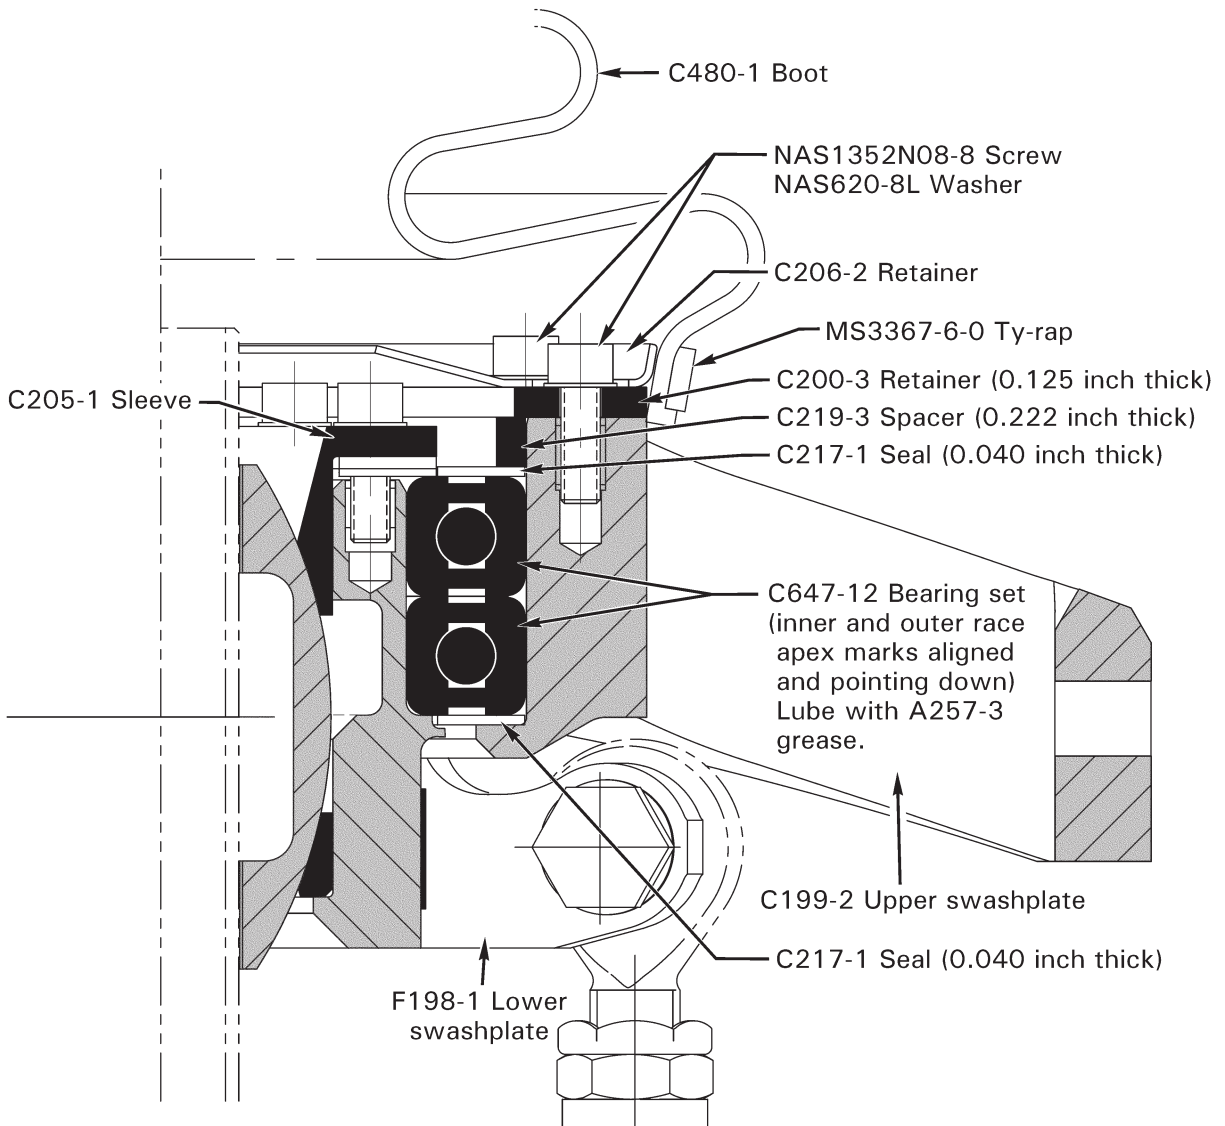

FIGURE 1 C017-6 REV AD OR LATER SWASHPLATE ASSEMBLY
- e. Refer to Figure 1. Perform steps 7 thru 11.
5. Refer to Figure 1. Remove (10) NAS1352 screws (with washers) securing C206-2 & C200-3 retainers to upper swashplate. Raise both retainers and C219-3 spacer and either temporarily secure to chord arm (if on helicopter) or set aside (if on workbench).
8. Position C217-1 seal atop grease followed by C219-3 spacer, C200-3 retainer, and NAS1352N08-8 screws with NAS620-8L washers. Finger-tighten all screws, then snug any (4) screws that are 90° apart, depressing seal and forcing grease into underlying bearing set. Rotate upper swashplate several revolutions. Wipe off excess grease.